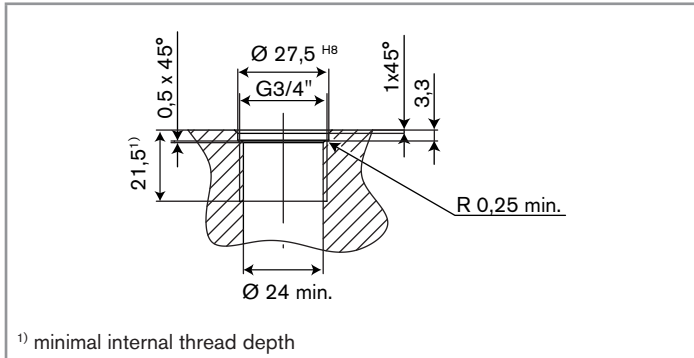

Fig. 11: Threading jig for the adapter [mm]
- Install the device on the pipe or the tank wall by means of an adapter that respects the threading jig from Fig. 11